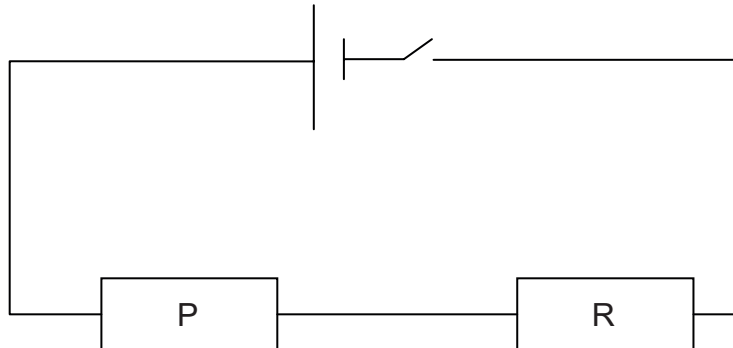

Fig. 2.1
- 2 You are provided with the circuit shown in **Fig. 2.1**, a third component labelled Q, a voltmeter, a milliammeter and additional connecting wires. Throughout this question, push and hold the switch closed as measurements are taken.
(a) The circuit shown in **Fig. 2.1** has been set up for you.